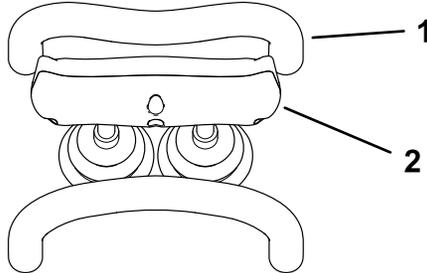

Figure 13
- To stop the machine, release the traction control (Figure 13).